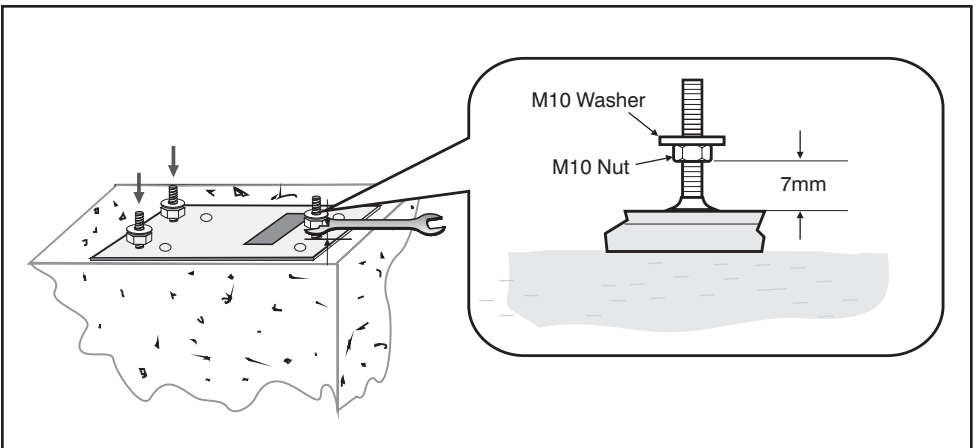

Figure 12 Prepare to Mount Operator
6. Fit M10 nuts and washers to the base as shown in Figure 12. Take care to adjust the nuts to be 7mm clear from the base to allow for later adjustment. NB: Remember to fit washers.